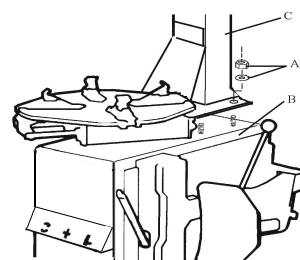

Fig 4
2. Unscrew the nut A on the body B as shown in Fig 4.